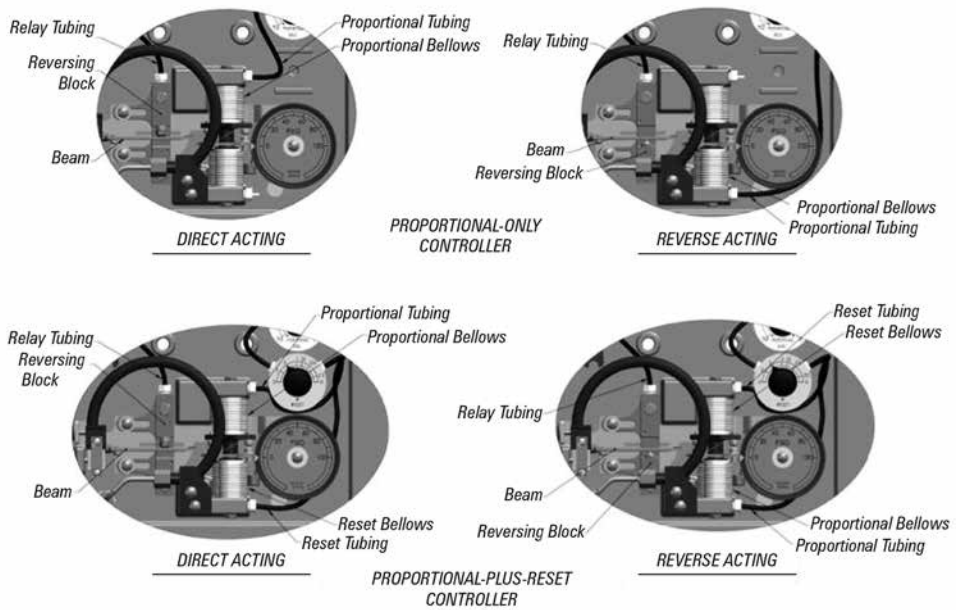

Figure 13 Tubing Connections. Direct/Reverse Action. Proportional-Only and Proportional-Plus-Reset Controllers.
- a. For a proportional-only controller with manual set point or for a transmitter: disconnect the end of the proportional tubing connected to the mounting base and reconnect it in the opposite hole (figure 13).
- b. For a proportional-plus-reset controller: disconnect the ends of the proportional and reset tubing that connect to the mounting base and reconnect it in the opposite holes (figure 13).
- c. For a proportional only controller with a remote set point: Disconnect the proportional and remote set point tubing from the mounting base and reconnect them in the opposite holes (Figure 13).